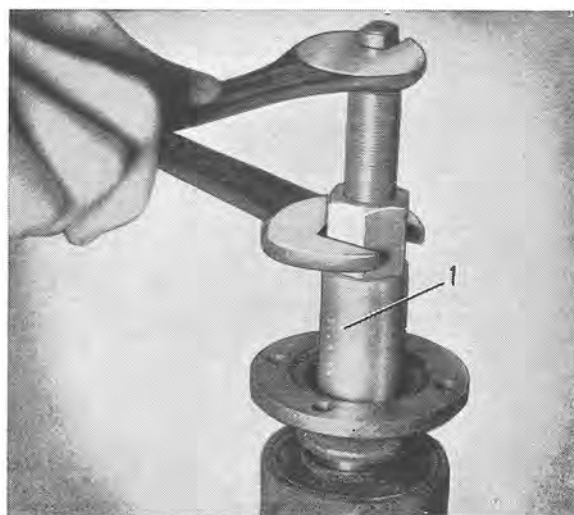

Fig. 4-144. Fitting flange
4. Press on the flange with the help of press tool 1845, see Fig. 4-144. Fit the washer and nut. Tighten the nut to a torque of 280—300 Nm (200—220 lbf ft).